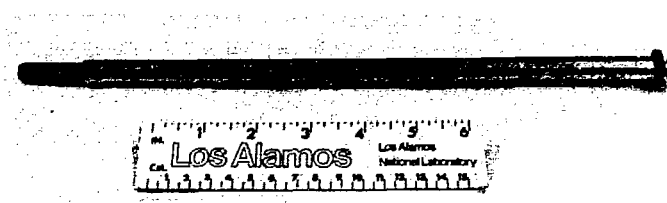

Fig. 8. Californium-252 calibration source and positioning rod.
**NOTE:** A 252Cf calibration source and positioning rod may be available at the facility to be inspected or may need to be shipped in a separate package (see Fig. 8).